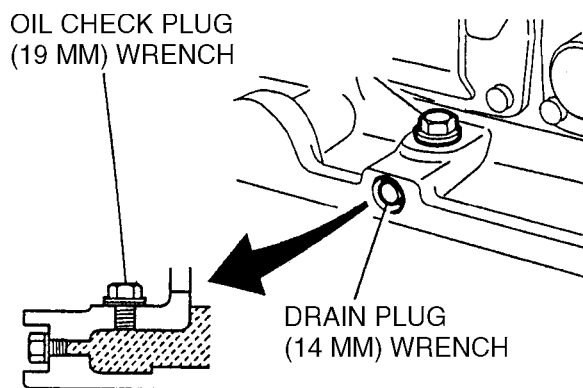

Figure 27. Vibrator Oil Maintenance
1. In every 100 hours of operation, with the machine positioned horizontally, remove vibrator oil level check plug (Figure 27) off vibrator (19 mm wrench) and see if oil is up to filler port. Be sure to clean area around check hole to prevent dirt and dust from entering.